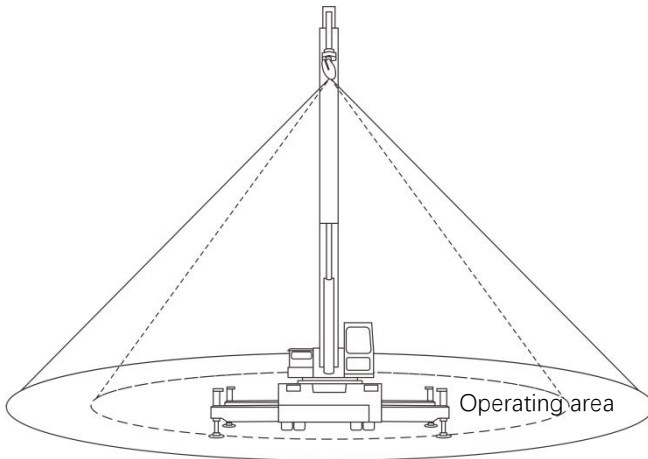

Figure.2
2. Insert the four eye bolts into holes on the top of the machine and then turn them clockwise until they are secured firmly. See the Figure.2 and Figure.3.
- Do not stand within 0.5-1m of the lifting area! During the whole lifting process, no one is allowed to stand under the boom or the work station. See the figure.2.